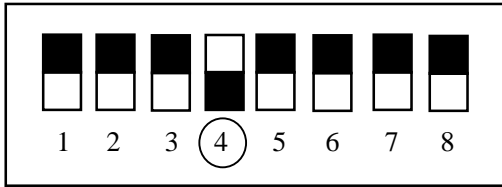

Figure 3.2.1 DIP Switches
① Before powering on the subsystem, set DIP switch No.4 as shown in Figure 3.2.1.